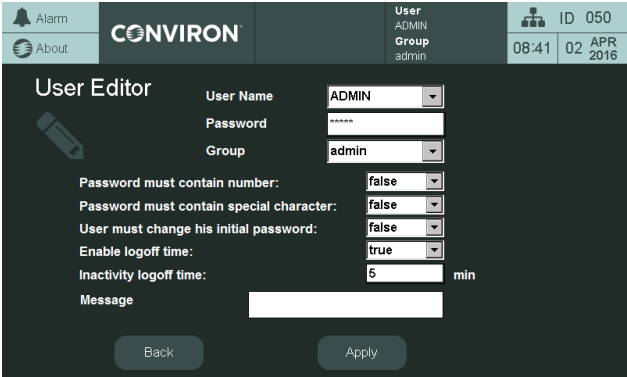

Figure 8-16 User Editing Screen Example
1. Tap the **Edit User** button  to access the **User Editor** screen (Figure 8-16).